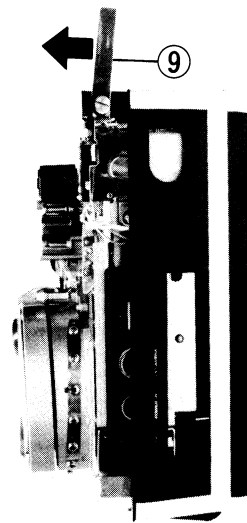

Fig. 4-4.
6. Remove the chassis from the cabinet by pulling handle ⑨ in the direction of the arrow as shown in Fig. 4-4.